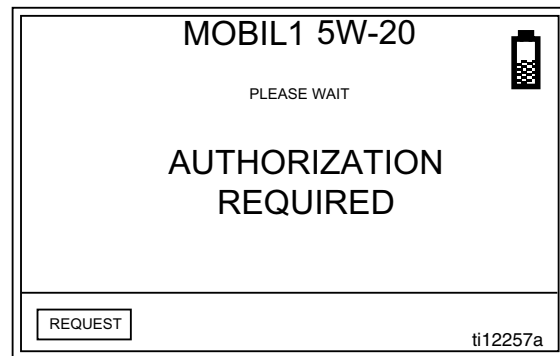

FIG. 23
2. After sending the request, the message PLEASE WAIT appears at the top of the screen as shown in FIG. 23.